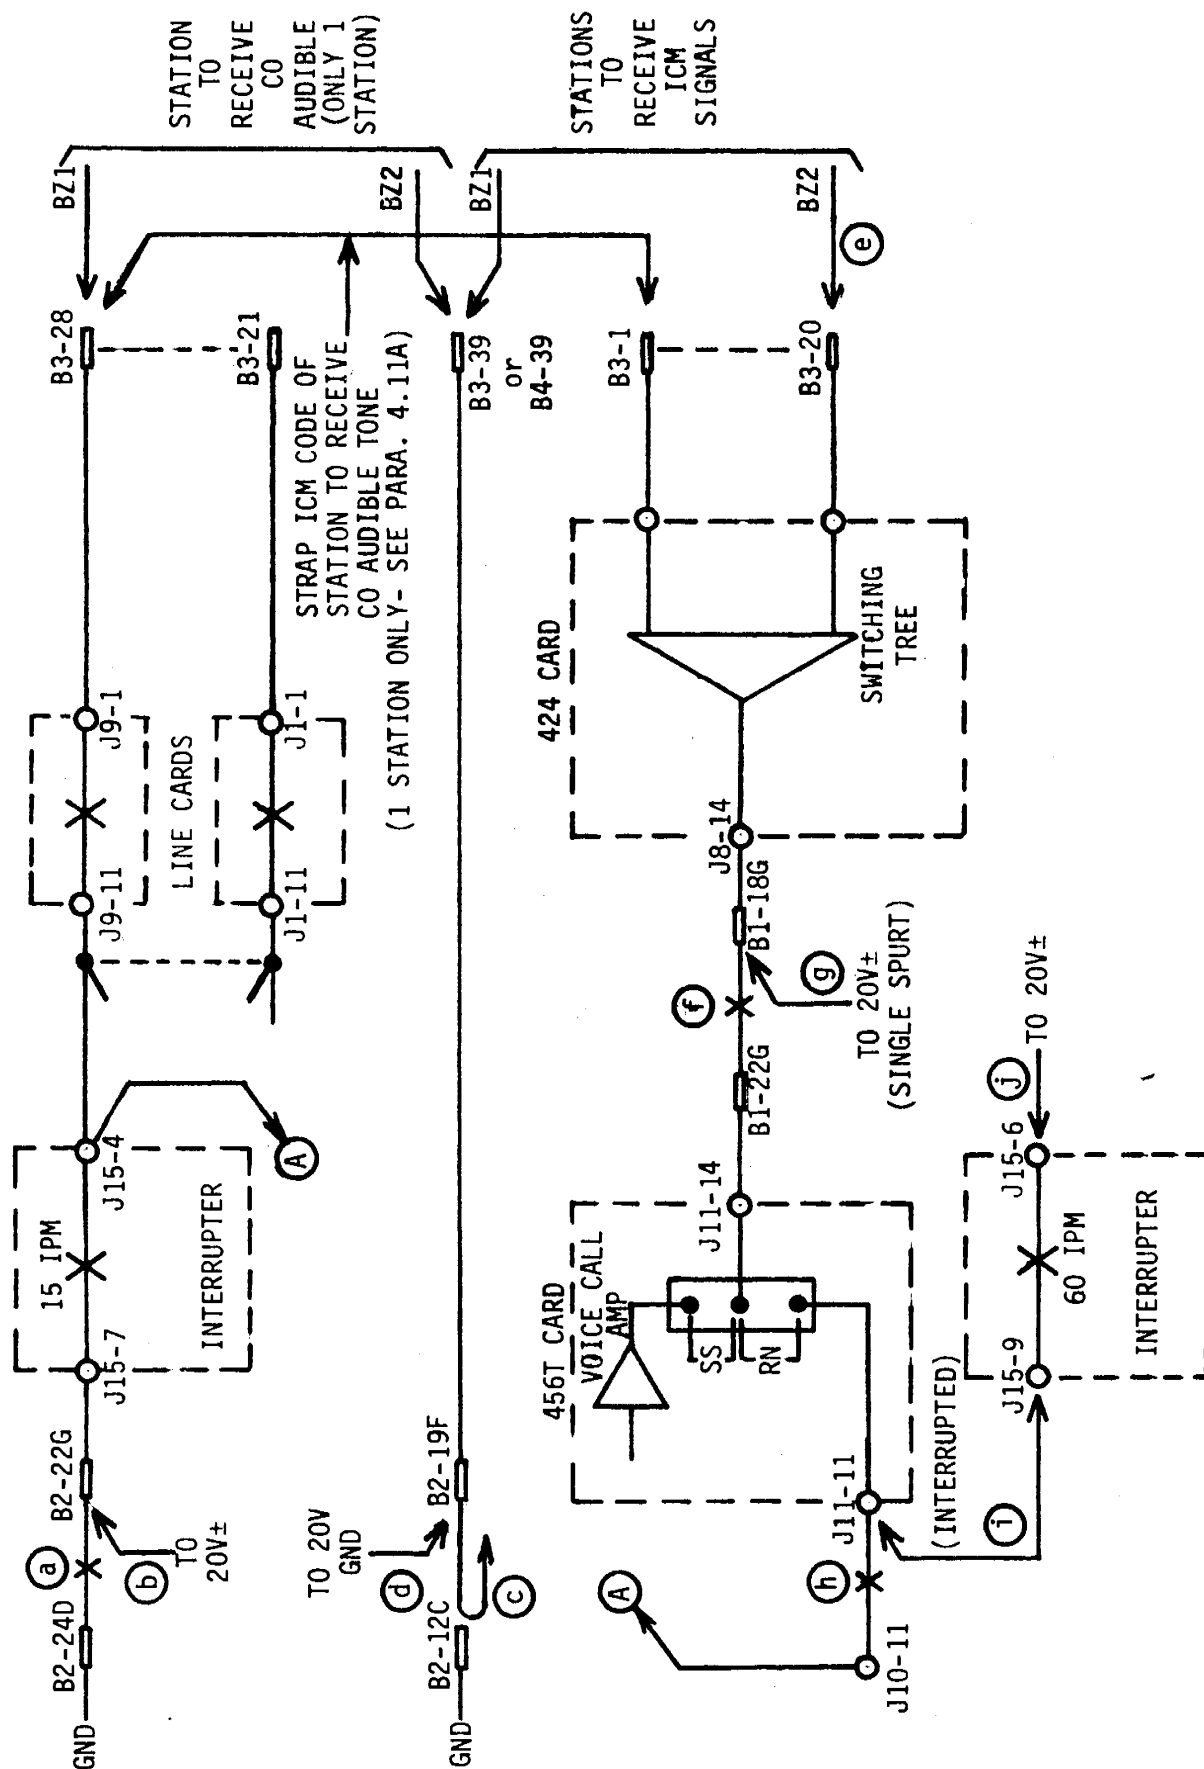

FIGURE 2A - Installer Wiring - Station Signalling With Buzzers
4.11A When buzzers are used at the stations, wire the BZ2 lead of the stations to receive ICM signals as described in paragraph 4.11. For stations to receive CO audible signals, wire the BZ2 (SL-YL) station lead to clip 39 of B3 or B4 and strap the ICM code for this station to the CO audible common strapping on B3. Refer to Figure 2A.